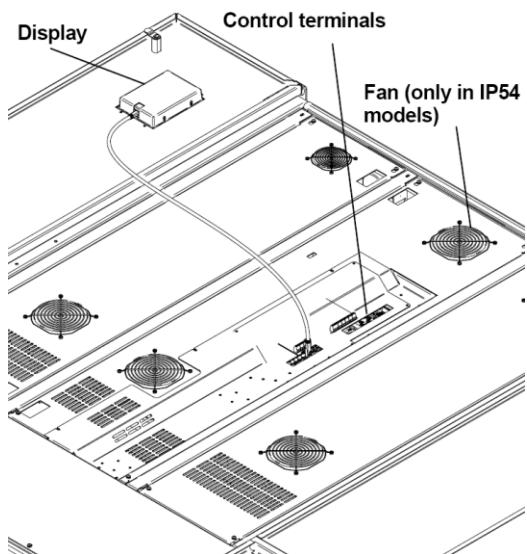
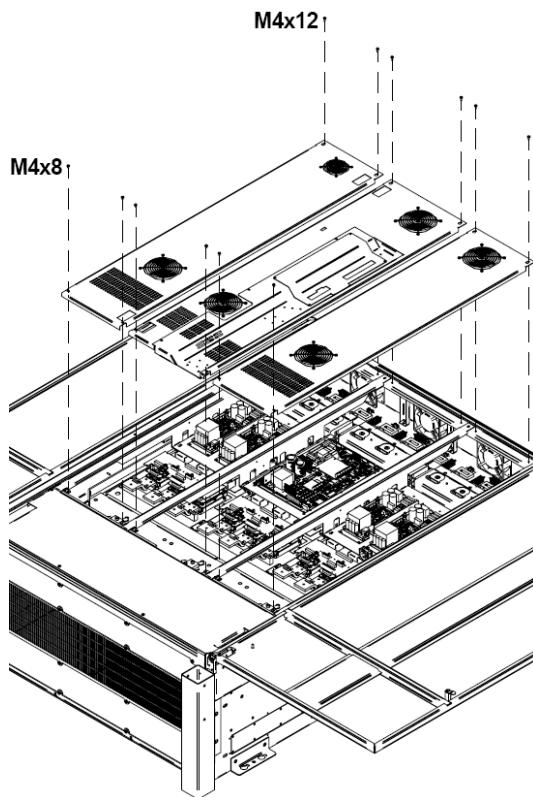

Figure 6.1 Disconnect the Display and the control terminals
Figure 6.2 Disassembly of the covers
Follow figure 6.1 and figure 6.2 while reading these instructions:
- 1) Place the covers on the chassis as it is shown in *figure 6.2*.